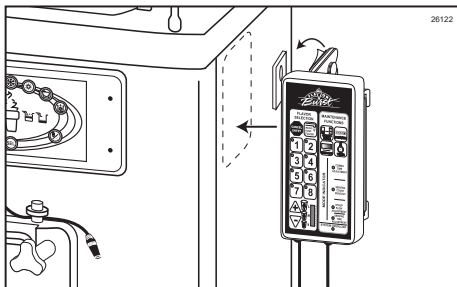

Figure 117
4. Remove the protective tape from the adhesive pad. Attach the Keypad bracket assembly to the desired mounting area. Ensure there is enough room between the Keypad assembly and the freezer face to slide the Keypad off and on the Bracket for daily cleaning. (See Figure 117.)